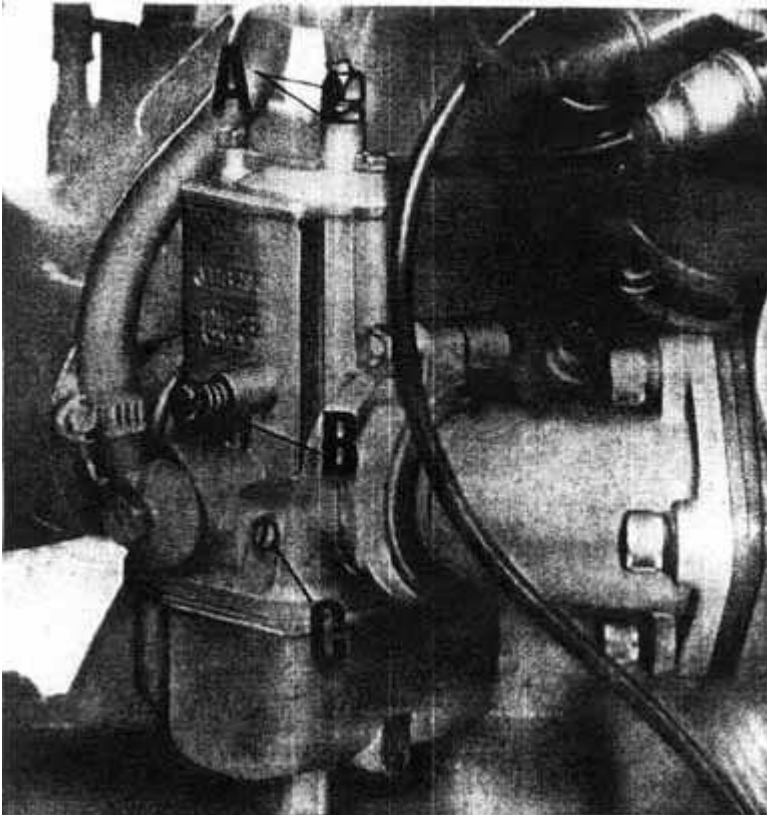

Fig. 17
- 2) With the filter box and the rubber inlet manifold removed. check that both gas valves open at the same time. This is done by turning the throttle grip and at the same time feeling with your fingers on the carburetor slides. If these open simultaneously by the same amount. Should one valve open before the other, correct by setting screw A (See fig. 17) in the position where by turning the throttle both valves open simultaneously .
- 3) Adjust the idling speed by acting on screw C in fig 17. Screwing this in reduces the fuel flow and vice versa increases it. To adjust, tighten the screw and then undo it 1 1/2 - 2 turns for the left cylinder carburetor and 2 - 2 1/2 turns for the right cylinder carburetor. With the engine revolving at about
and lightly turn screw C in fig. 17 of the opposite carburetor on to the position which will give the best idling speed, i.e. until the engine revs increase slightly.
4) Disconnect the R/H cylinder plug lead. start the engine, and ensure that it stop after firing 4 or 5 strokes. If it dies out earlier or later, It is necessary to adjust idling screw B in fig. 17 to the point where the engine will stop after firing 4 or 5 times.
If the R/H cylinder is normal, the engine should stop after firing 4 or 5 times. If not, screw 8 in fig. 17 should be similarly adjusted to the position where it does so. The L/H cylinder plug lead is then reconnected.